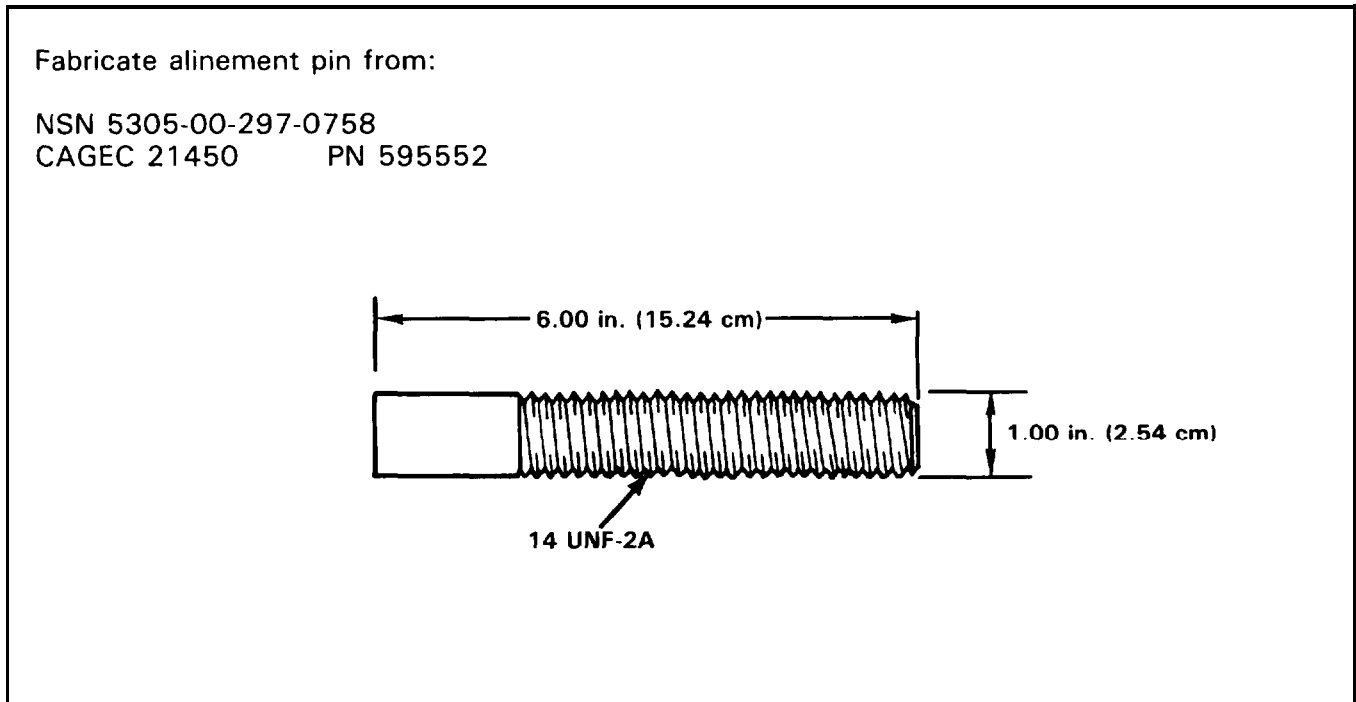

Figure 1. Alinement Pin (595552).
- 2 Install two fabricated alinement pins (fig. 1, appx C) in threaded holes in outer race (3). Alinement pins should be 180 degrees apart.
- 3 Aline scribe mark and install cab (1) on plain bearing unit (2).
- 4 Position cab assembly (1) over plain bearing unit (2) and lower cab assembly into place.
- 5 Coat threads of 28 hexagon head capscrews (4) with sealing compound (item 18, appx B) and, using torque wrench, install 28 new lockwashers (5), and 28 hexagon head capscrews (4) securing plain bearing (2) to cab (1). Torque hexagon head capscrews (4) to 200-215 ft-lb (270-290 N-m) dry or 140-150 ft-lb (189-203 N-m) lubricated.